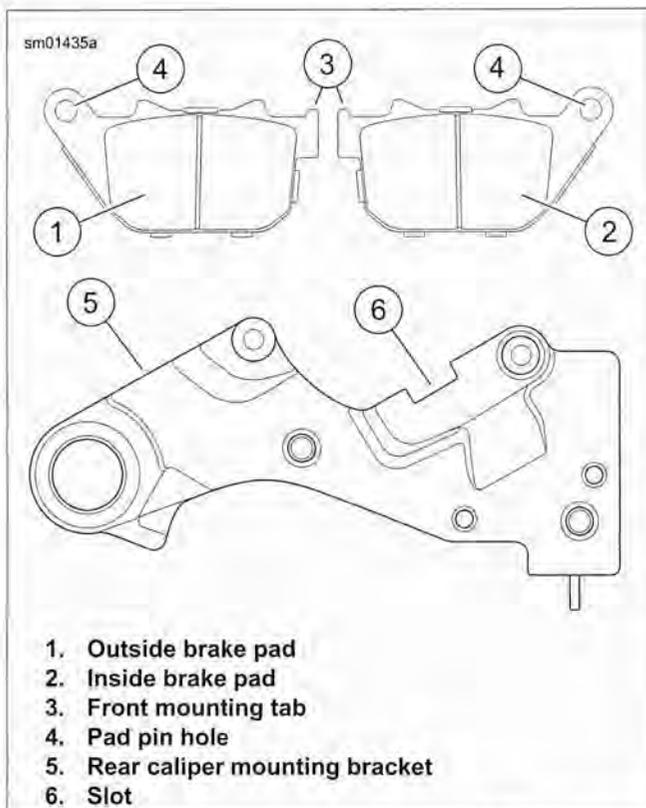

Figure 1-32. Rear Brake Pads: XR 1200X
1. See Figure 1-32. Install **new** outside brake pad using the same orientation as pad previously removed. Make sure front mounting tab (3) is seated in slot (6) in caliper mounting bracket and pad friction material faces brake disc.
- See Figure 1-32. Pad front mounting tabs (3) must be fully seated in mounting bracket slot (6).